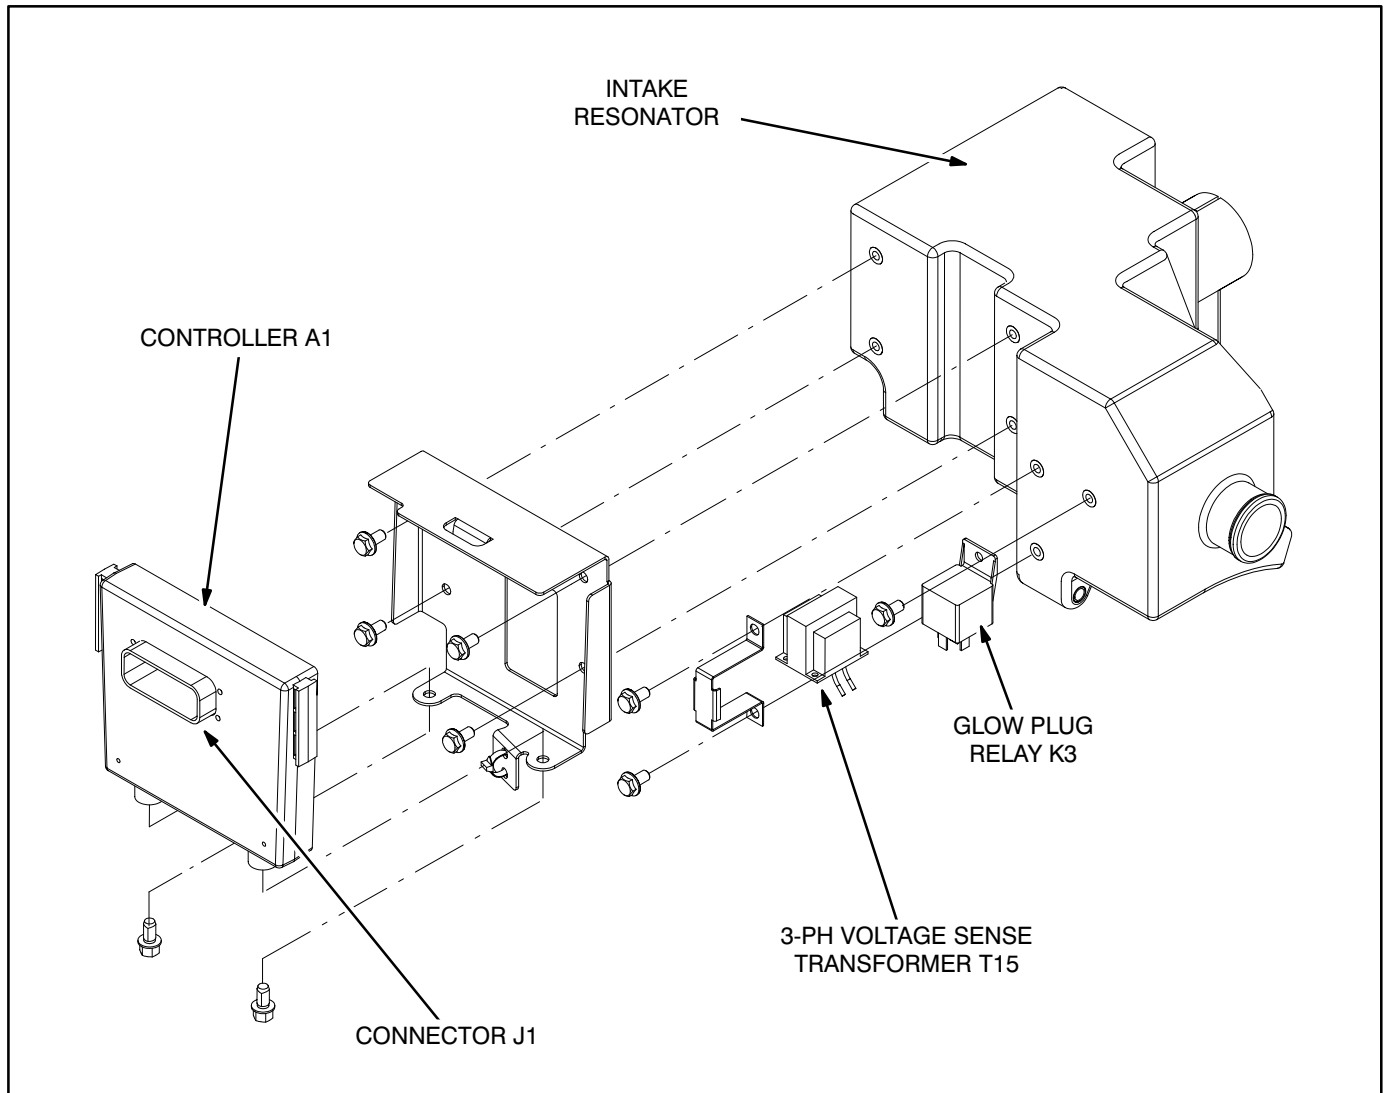

FIGURE 5-1. CONTROLLER A1
Controller A1 is an integrated microcontroller-based engine and generator control (Figure 5-1). It provides all the control, monitoring and diagnostic
The glow plug relay is mounted in its wiring socket on the intake resonator (Figure 5-1). Pull the relay out to test it. Apply 12 VDC across terminals 85-86. Replace the relay if the contacts across terminals 30-87 (NO) do not open and close.
Mounting: The voltage sense transformer for 3-phase generators is mounted on the intake resonator (Figure 5-1). It is connected as shown on Page A-2 to sense output voltage in L1.